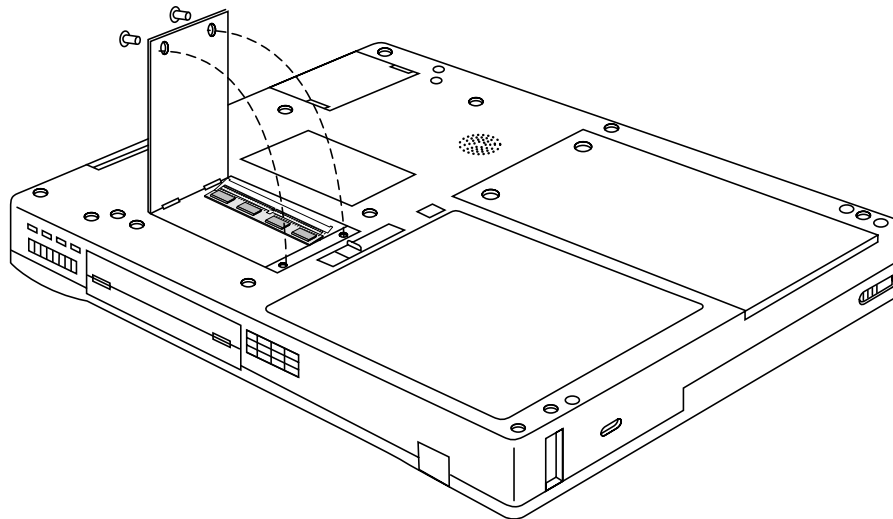

Figure 4-2 Installing a DIMM Card
2. Remove the two screws from the cover plate on the back of the pen tablet and remove the cover plate as shown in Figure 4-2.
2. Remove the screws from the cover plate on the back of the pen tablet and remove the cover plate as shown in Figure 4-2.